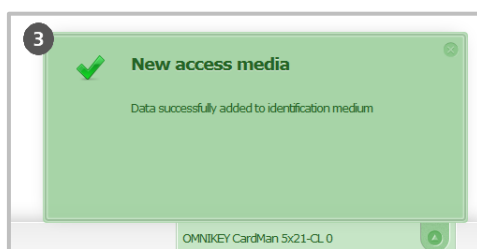

Figure 125: Access medium created successfully
The status line confirms having successfully completed the write process ❸ (Figure 125: Access medium created successfully). The Xesar identification medium is now ready for operation.